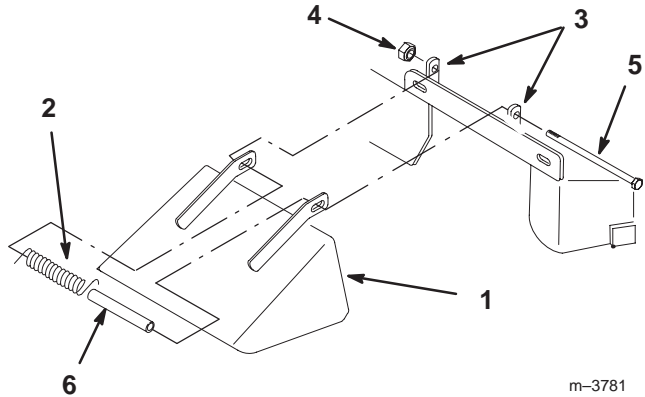

Figure 52
1. Remove the locknut, bolt, spring and spacer holding deflector to the mounts (Fig. 52).
2. Straighten deflector mounts if they are bent (Fig. 52).
3. Install new deflector between mounts with spacer and spring. Hook the front end of the spring around the front deflector mount. Insert bolt through spacer and secure with locknut. Confirm there is downward spring force on deflector (Fig. 52).
4. Tighten the bolt and locknut until they lightly contact the pivot brackets (Fig. 52).